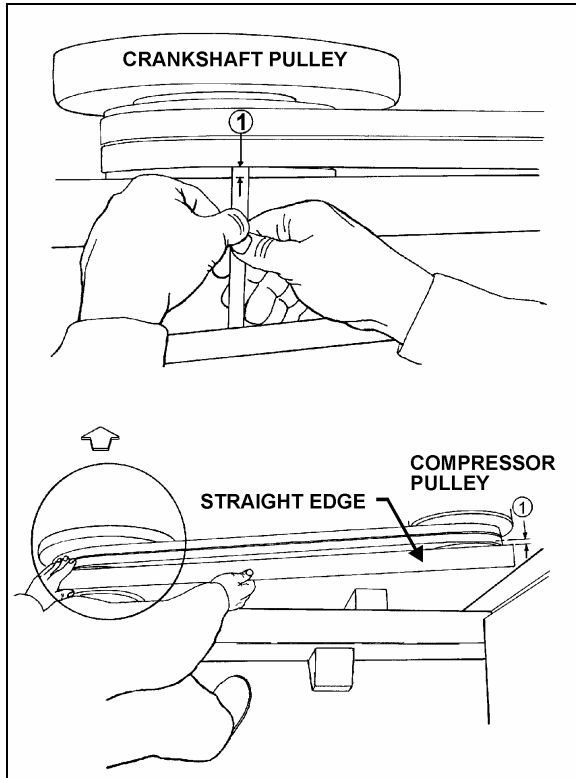
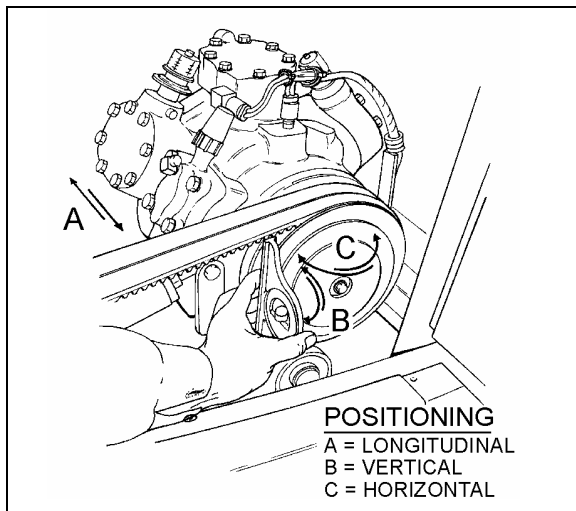

FIGURE 24: COMPRESSOR ALIGNMENT
FIGURE 25: COMPRESSOR ALIGNMENT
After belt replacement or during normal maintenance, belt play between idlers and belt must be checked to ensure proper operation. Refer to Figure 24 for proper plays.
1. Rest an extremity of a straight edge of approximately 46 inches (117 cm) against the upper part of the outer face of crankshaft pulley, positioning the other end close to the compressor clutch pulley (Figure 24 & Figure 25).
2. Check the distance between each extremity of straight edge (1, Figure 24) and the first drive belt. If they are different, loosen the compressor support bolts and with a hammer, knock support to slide it in order to obtain the same distance; then tighten bolts.
2. Check the distance between each extremity of straight edge (1, Figure 24) and drive belt. If they are different, loosen the pillow block compressor bolts and with a hammer, knock compressor pillow block to slide it, in order to obtain the same distance; then tighten bolts.
Rest a short "angle and level indicator" on the outer side face of the crankshaft pulley, adjust the level indicator inclination at 0° and check if the compressor pulley is at same angle (Figure 24 & Figure 25). If it is not the same, shim under the appropriate pillow block in order to obtain the correct angle.